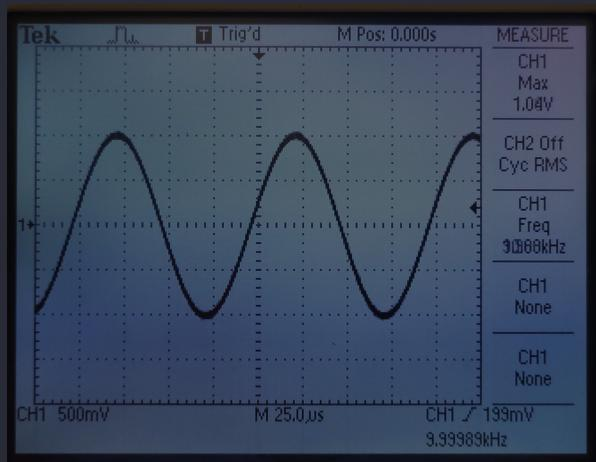

Figure 0.2: TDS 1012 oscilloscope view
- Simple sine wave: Selecting the Sine waveform on the 33500B, we can see the outputs in the time & frequency domains as shown in Fig. 0.2 and 0.3